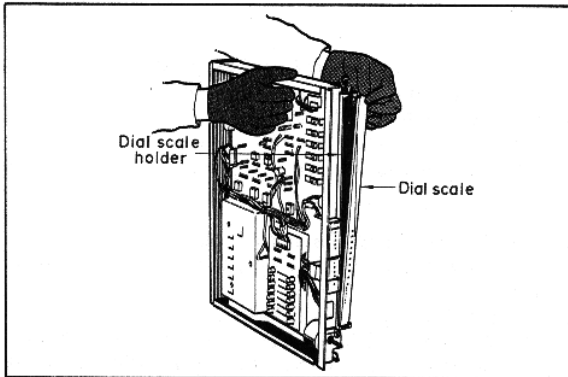

Fig. 2
- As in Fig. 2, depress the dial scale in the direction of arrow 1, and then remove it in the direction of arrow 2.
* When the dial scale is attached to the holder, depress in the direction of arrow 1 in Fig. 2 and at the same time slip it into the holder.
- Remove screw (6) and (7) in Photo 3 (M3 x 6 bind head screws) and then remove the dial scale holder.